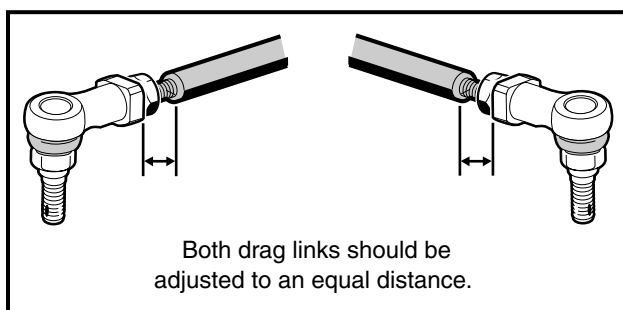

Figure 7-27 Adjust Toe-in
- 6.3. Rotate both of the ball joints an equal amount. To increase the toe-in, rotate both of the ball joints counterclockwise. To decrease the toe-in, rotate both of the ball joints clockwise. Maintain an equal distance from the ball joint to the end of the threads on each drag link (**Figure 7-27, Page 7-15**).